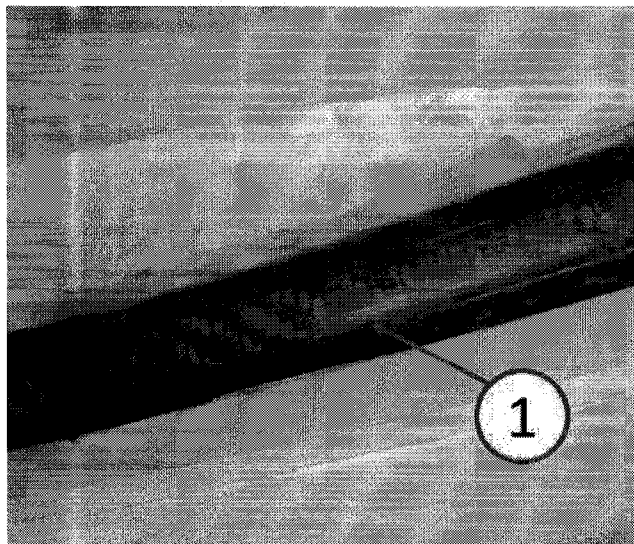

Fig. 4 Polish Residue
5. Apply Meguiars M86 Solo™ Cut & Polish Cream or equivalent directly to rotary Meguiars WWLC7 wool light cutting pad or equivalent and begin using moderate pressure and overlapping passes followed by 2-3 light pressure passes (Fig. 4).